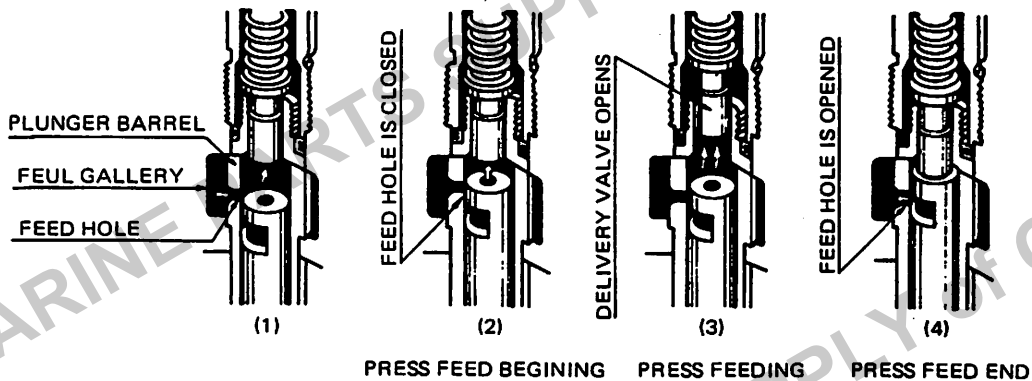

Fig. 4-4 Plunger operation
1. When the plunger is at bottom dead center, fuel flows from the fuel gallery through the feed hole, and into the plunger barrel, as shown in Fig. 4-4 (1).
2. At the moment when the plunger rises through rotation of the camshaft and the upper portion of the plunger is aligned with the top of the feed hole, fuel-pressure-feeding begins, Fig. 4-4 (2).
3. In accordance with plunger stroke, fuel then opens the delivery valve and flows to the nozzle. (Fig. 4-4 (3)).
4. The plunger rises further and at the moment when the lower portion of the control groove is meet with the top of the feed hole, the fuel is pressure-returned to the fuel chamber through the center hole of the plunger, and the fuel pressure drops, fuel feed ends, (Fig. 4-4 (4)).